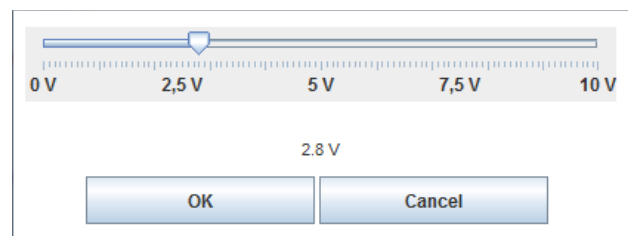

Fig. 35-13
- A slider with a scale from 0 to 10 V or from 4 to 20 mA opens. (Fig. 35-13)